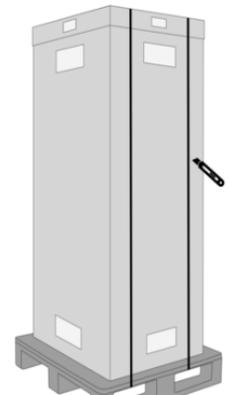

Figure 2—Cutting Packing Straps
- 1 Cut through and discard the packing straps (see *Figure 2*) used to secure the packing box or crate to the pallet.**